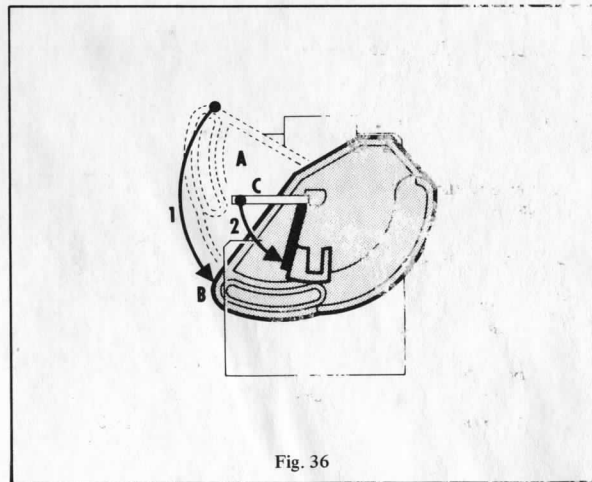

Fig. 36
1. Turn downwards the driving plastic disc "A" to stop "B" (Fig. 36).
2. Turn downwards the lever "C" of the gas cock as far as possible (Fig. 36).